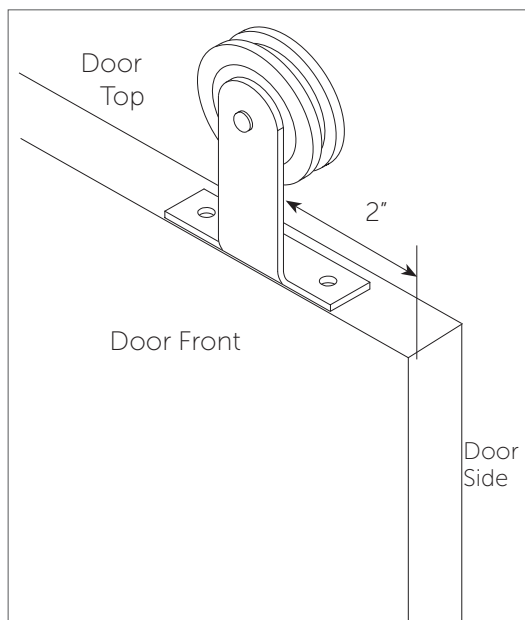

Figure 1
1. Place the hanger on the top surface of the door, 2" from the edge of the door side and flush with the door front. Ensure the front of the hanger and the front of the door are facing the same direction (Figure 1).